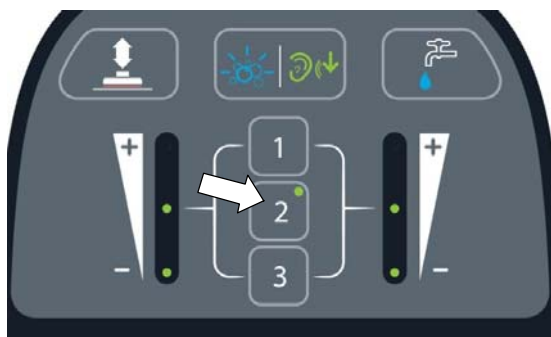

FIG. 42
- Press the Zone Setting numbers for quick operation (Figure 42). The three preset zones are factory configured with different solution flow rates and down pressures.